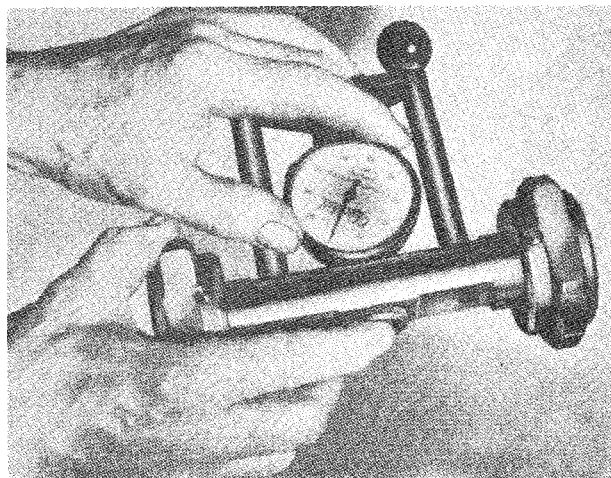
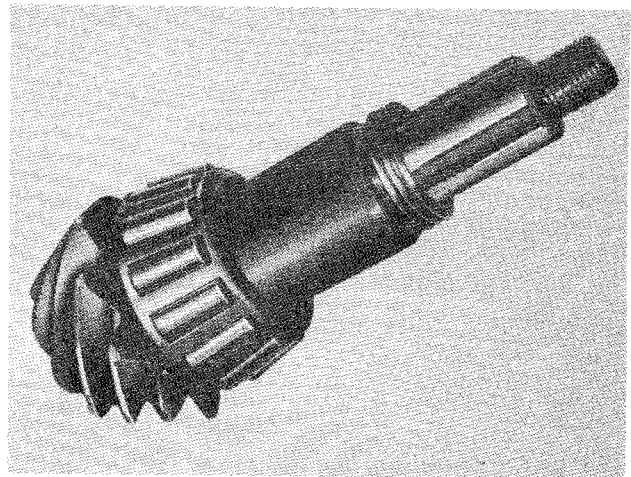

**Fig. 18** Fitting pinion bearings outer rings utilising Churchill Tool No. M70.
**Fig. 22** Shims placed in position on outer ring abutment face.
- (i) Fit the outer rings of the pinions two bearings, pulling them into place with a special tool. (Fig. 18).
- (vi) Insert the measured pack of shims on the pinion head bearing outer ring abutment face (Fig. 22) and replace the pinion bearing outer rings, pulling them into place with the special tool shown in Fig. 18.